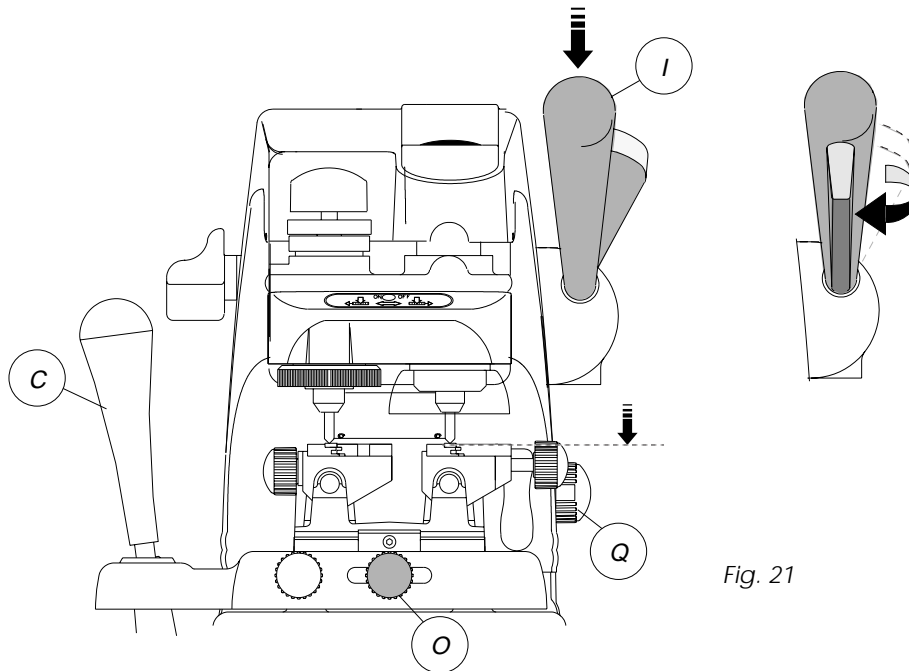

Fig. 21
- secure the spindle at this height by turning the lever (I) clockwise (Fig.21).
- carry out the cuts using only the left-hand lever (C).
- before activating the start switch (Q), lower lever (I) close to the keys and regulate the spring system for laser (sidewinder) keys (ch.5.2).
- Start the cutting operation by activating switch (Q).
- carry out the cuts using only lever (C).
- activate the Laser (sidewinder) key spring system with knob (O) (ch.5.2- central cutting).
- turn on switch (Q), lower the collet assembly and position on the beginning of the cut (ch.6.4).